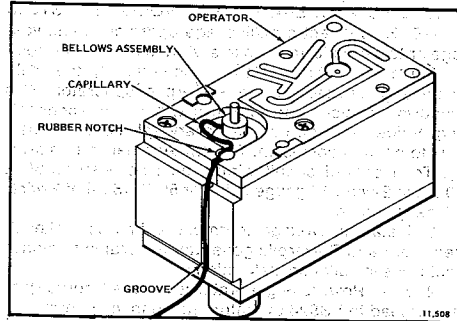

Fig. 9— Form capillary smoothly and without crimping to fit in hole in operator.
6. Run the capillary through the rubber notch in the bottom of the operator and up the groove in the side. See Fig. 9. Tape the capillary in place.